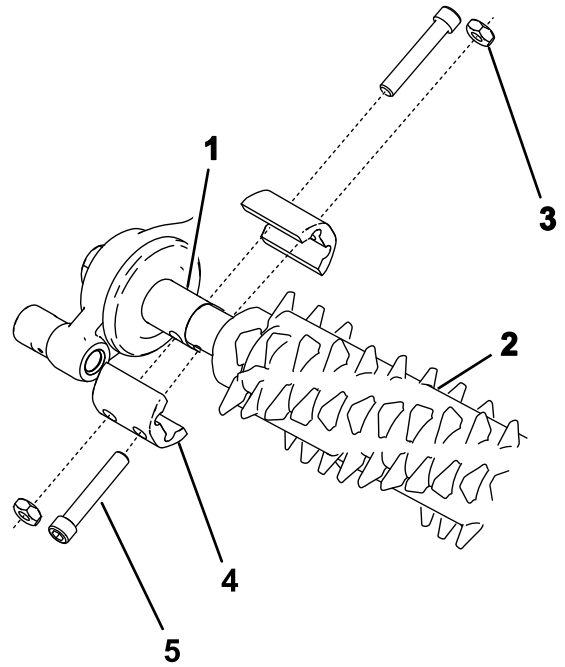

Figure 22
- Line up the groomer with the groomer drive box and idler assembly (Figure 22).
- Secure the groomer to the machine as shown in Figure 22 and snug the bolts.